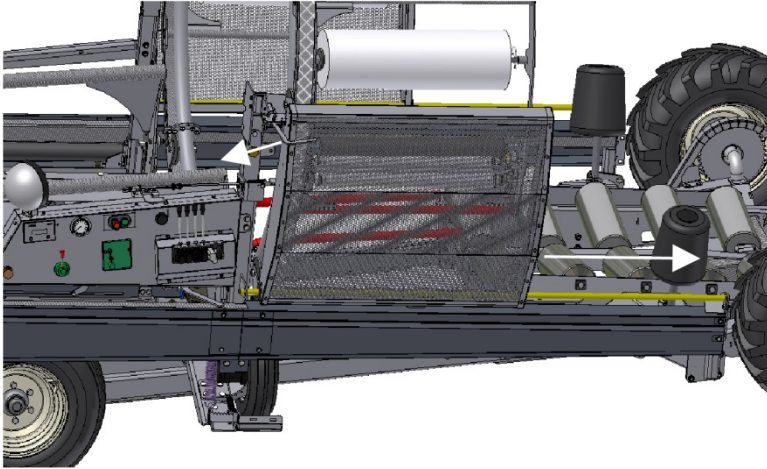

Figure 12 – Unlocking the safety gate
1. While holding the safety guard so that it does not fall, pull on the handle of the lock in the upper left corner of the guard. (Figure 12)
2. When the handle is unlocked, slide the grill to the front of the wrapper and lower it gently. You now have access to the supports of the plastic film. (Figure 12)